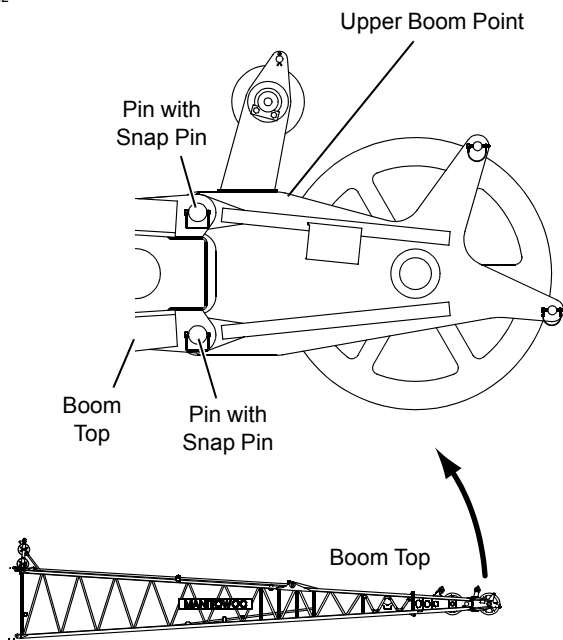

FIGURE 4-37
See Figure 4-37 for the following procedure.
6. Remove upper boom point (Figure 4-37).